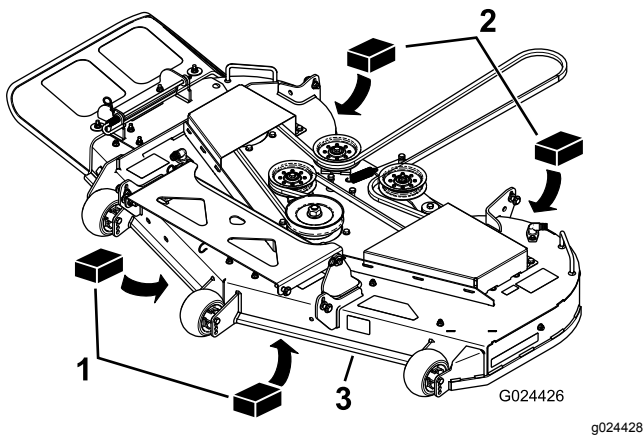

Figure 71
3. Place 2 blocks, each having a thickness of 6.6 cm (2-5/8 inches), under each side of the front edge of the deck but not under the anti-scalp roller brackets (Figure 71).
4. Place 2 blocks, each having a thickness of 7.3 cm (2-7/8 inches), under the rear edge of the cutting deck skirt, 1 on each side of the cutting deck (Figure 71).